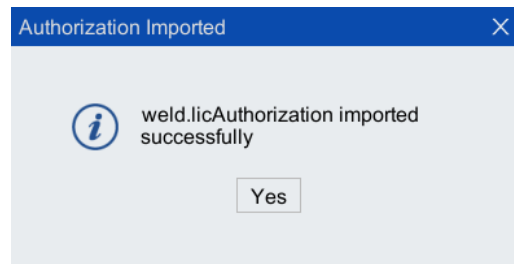

Figure 4-13 "Select the Required Authorization File" interface
Step5. After the authorization is successful, the dialog box shown in Figure 4-13 will pop up. Click "Yes" to complete the authorization.